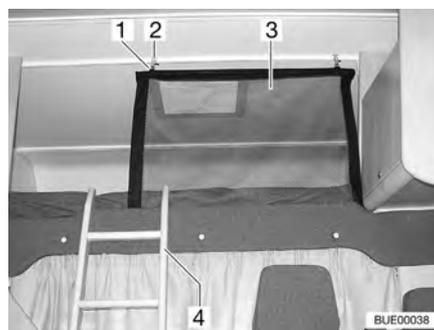
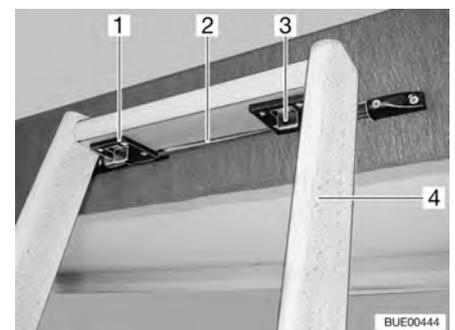

Fig. 79 Overcab bed
Fig. 80 Access ladder, catch
Always use the access ladder (Fig. 79,4 and Fig. 80,4) provided as standard to access the overcab bed.
- Hang the ladder with the two hooks (Fig. 80,1) on the rail (Fig. 80,2) of the alcove flap.
- Push the two catches (Fig. 80,3) forward.
**Safety net** The safety net (Fig. 79,3) is stored as standard between the mattress and slatted frame. Only use the safety net if persons are already in the alcove.
- Attach the holder (Fig. 79,1) to the eyes on the ceiling (Fig. 79,2).